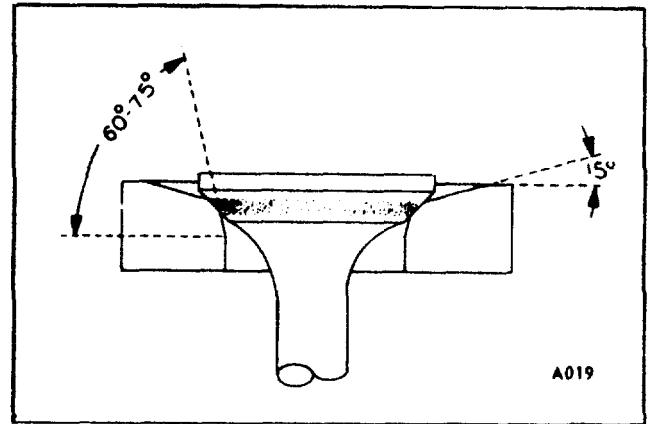
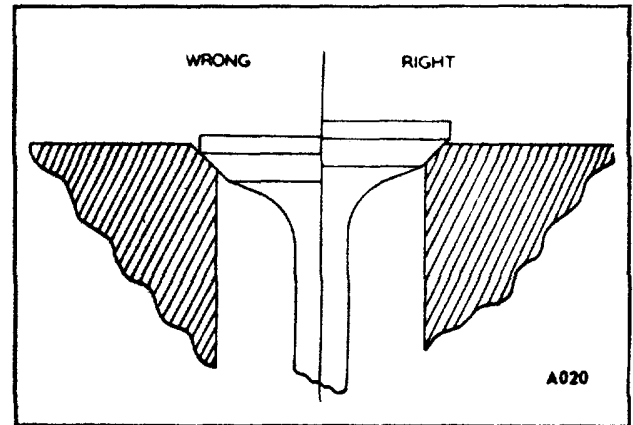

Figure 18.
Figure 19.
4. After the valves and seats have been refaced and reground, coat the seat lightly with "Prussian Blue" and drop the valve into position, oscillating it slightly to transfer the blue pattern to the valve face. This should show a contact width of 1/16" to 3/32" and should fall well within the width of the valve face, leaving at least 1/64" on either side where the blue does not show. If the valve contact is over 3/32" wide, the seat in the block may be narrowed by using a 15 stone to reduce the outside diameter or using a 60° or 75° stone to increase the inside diameter. (Fig. 18) Never allow valves to sit down inside the seat. (Fig. 19)